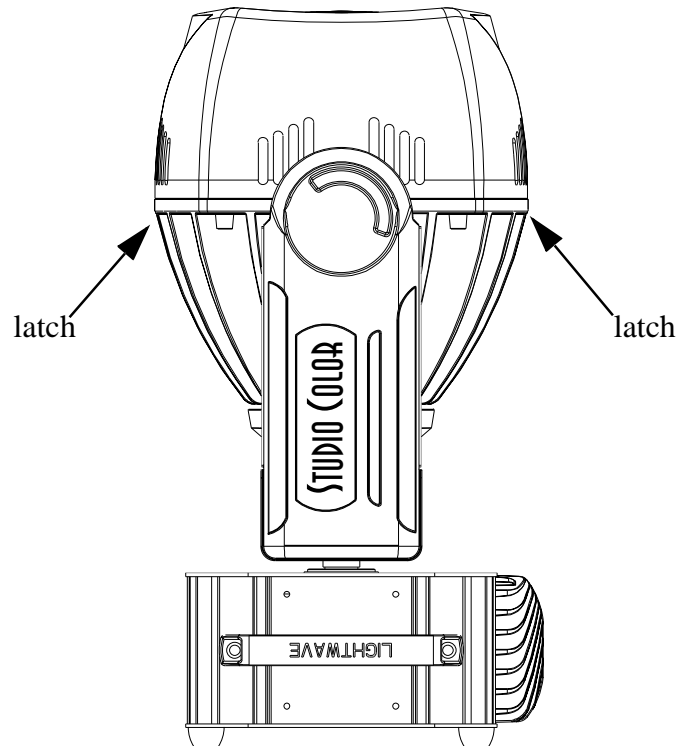

Figure B.1. Removing the Bezel
2. Remove the bezel by releasing the two latches located in the middle of the fixture head. Refer to Figure B.1.
2. Remove the bezel by releasing the two latches located in the middle of the head. Refer to Figure B.1.